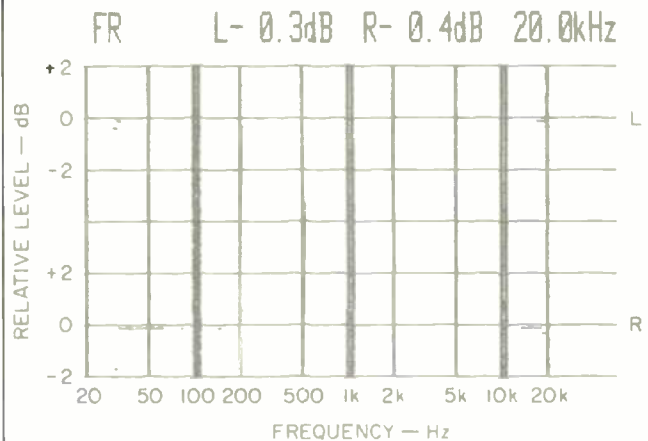

Fig. 1—Frequency response, left (top) and right channels.
Frequency response of the PD-9010X is shown in Fig. 1. Response was very slightly attenuated at 20 kHz, measuring
-0.3 dB for the left channel and -0.4 dB for the right channel. As usual, in order to plot frequency response deviations in greater detail, the vertical scale in Fig. 1 is only 2 dB per division.